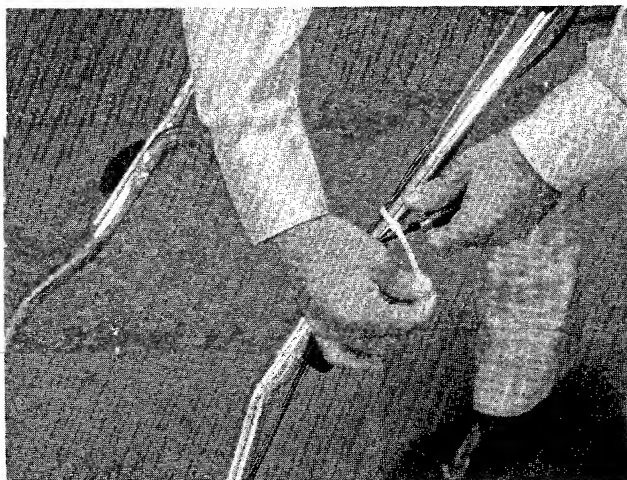

FIGURE 5
7. Cut off excess ends of ties. See figure 5.